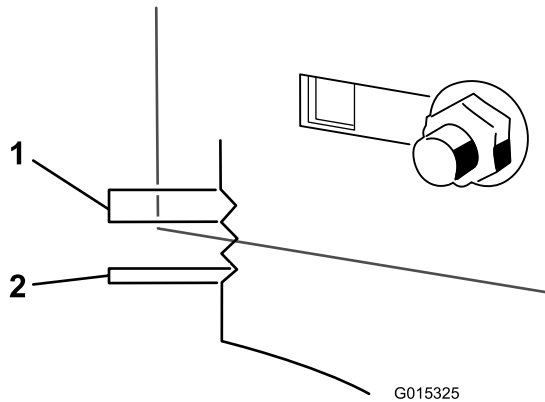

Figure 53
- Use the notches on the welded bracket to measure the amount of adjustment. Each notch surface is equivalent to 0.25 inch, while a single side is 0.125 inch (Figure 53). Adjust the height of the mower deck to the desired height.